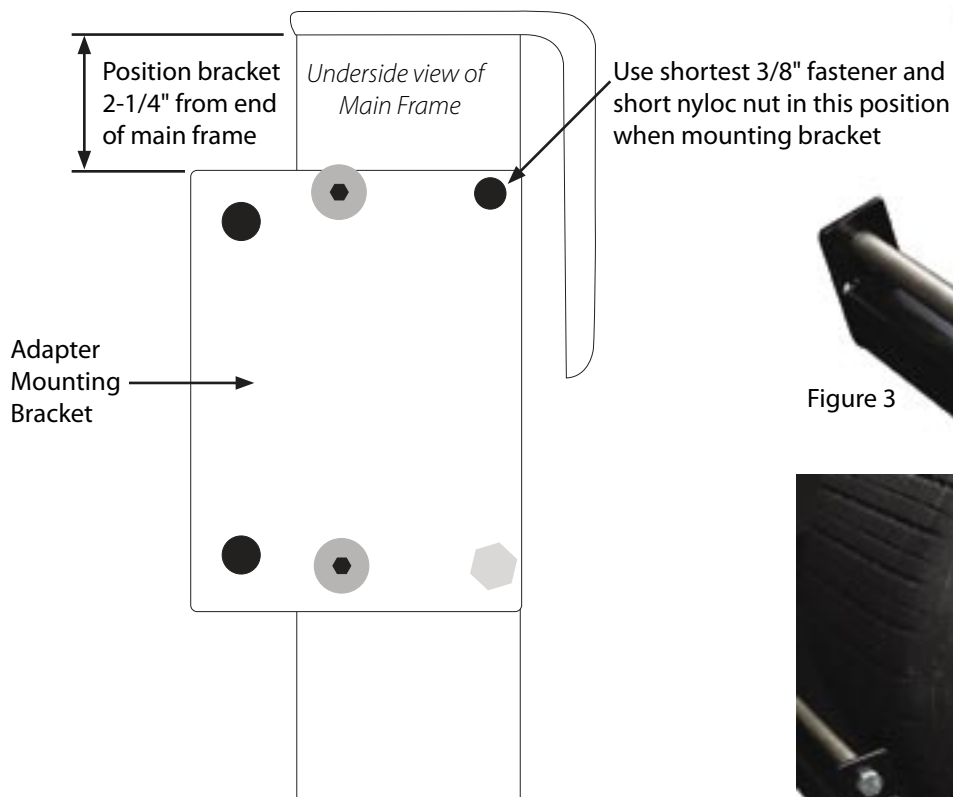

Figure 1
1. Position adapter mounting bracket on bottom side of machine as shown in Figure 1.
2. If machine does not have mounting bracket provisions, use bracket as a template and position it 2-1/4" from end. Cover electric motor to prevent shavings from falling into vent openings and drill four 3/8" mounting holes to underside of main frame. Use caution when drilling mounting holes, a drill collar is recommended to limit travel and prevent damage to electric motor (see Figure 1).
Note: There are two different length hex head bolts, use the shortest bolt in the hole identified in Figure 1 with short nyloc nut to prevent interference with motor assembly.